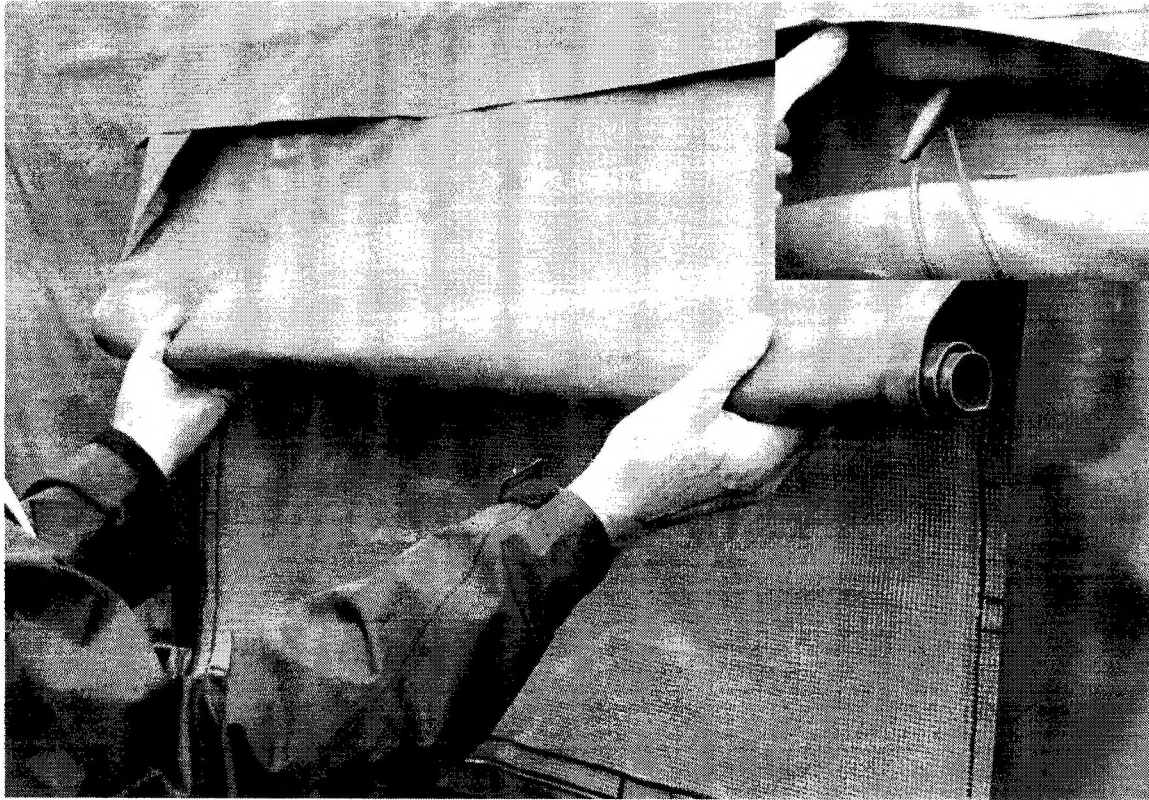
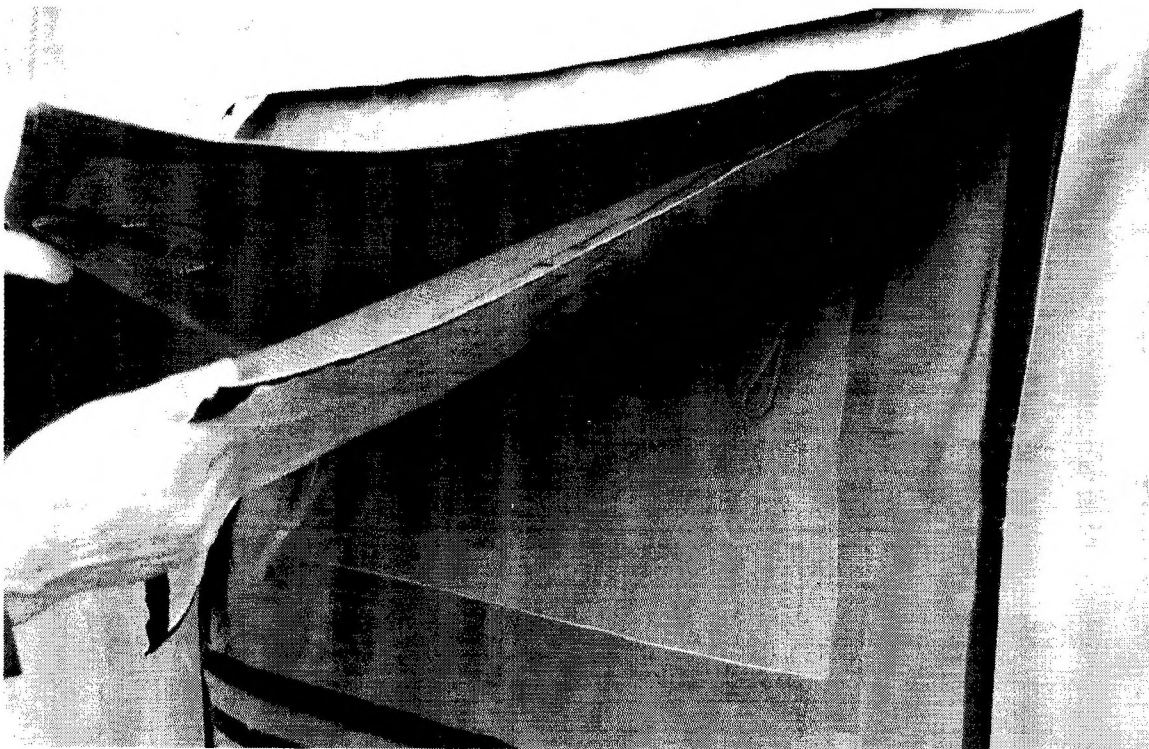

Figure 54: Window adjustment
Figure 55: Window adjustment for ventilation
55. Operation of the windows is simple, however to minimise the visual signature the canvas should be rolled up so that only the green side is visible and tied back in position using the toggles Fig 54 and Fig 55.